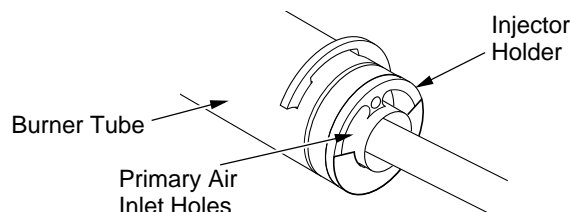

Figure 41 - Injector Holder On Outlet Burner Tube - Rear Burner
2. Inspect burners, pilot, and primary air inlet holes on injector holder for dust and dirt (see Figures 41 or 42).